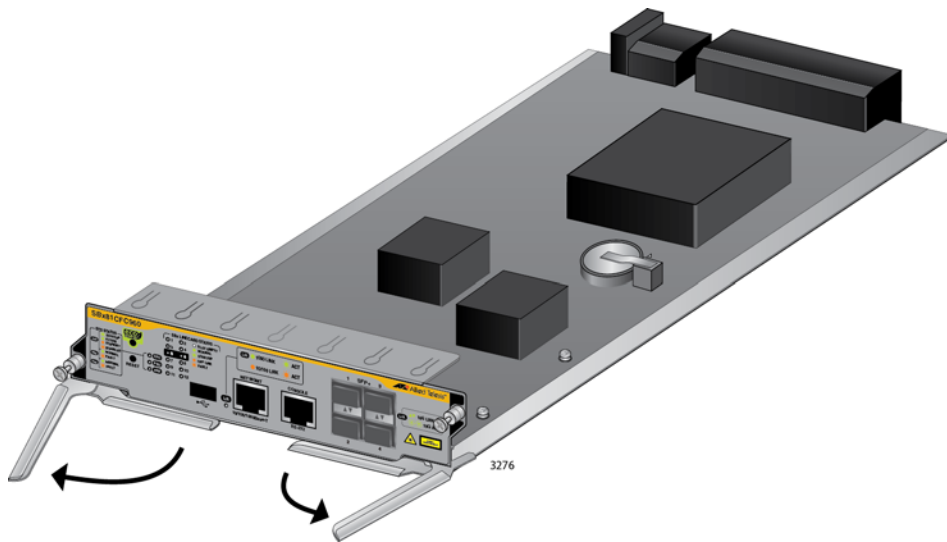

Figure 83. Opening the Locking Handles on the AT-SBx81CFC960 Controller Fabric Card
- Move the locking handles on the front panel to the open position, as shown in Figure 83.